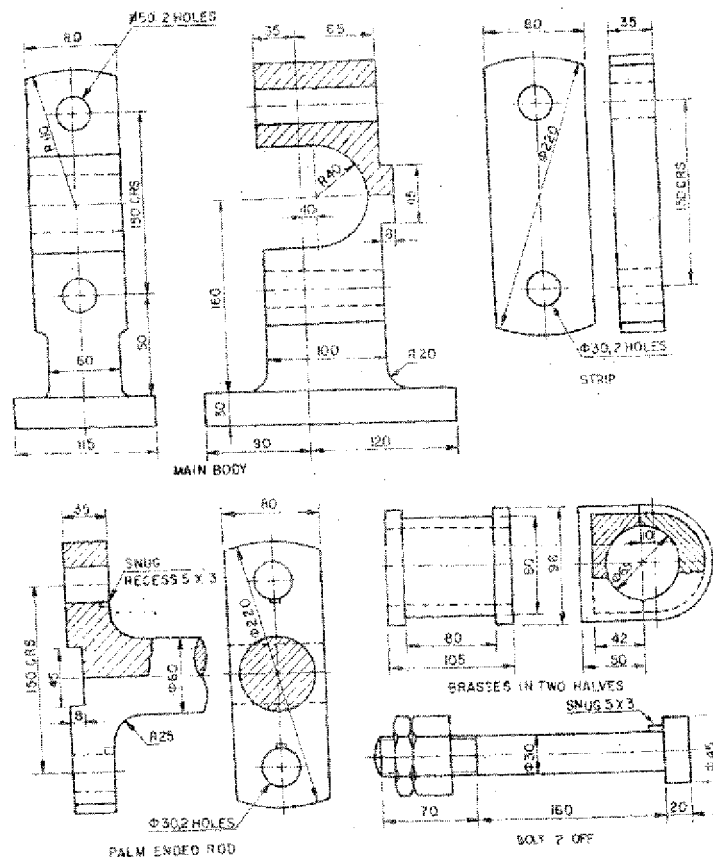

Fig. 1
- Instructions :** (1) Answer *any one* question and it carries **forty** marks.
(2) All dimensions are in mm.
(3) Choose suitable scale.
5. Assemble the parts of steam engine cross head shown in Fig. 1 and draw the following views : 25+15